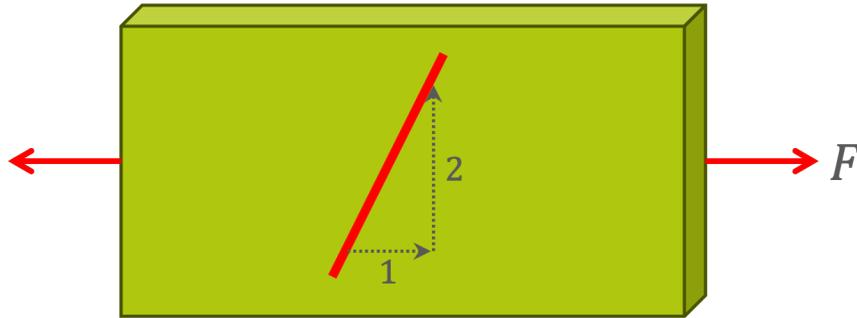

Figure 1: Line drawn on the specimen surface before loading.
Before loading, a straight line is drawn on the surface of a test specimen (see Figure 1). The specimen is then subjected to a uniaxial normal stress of
1. Determine the initial slope of the line from Figure 1.